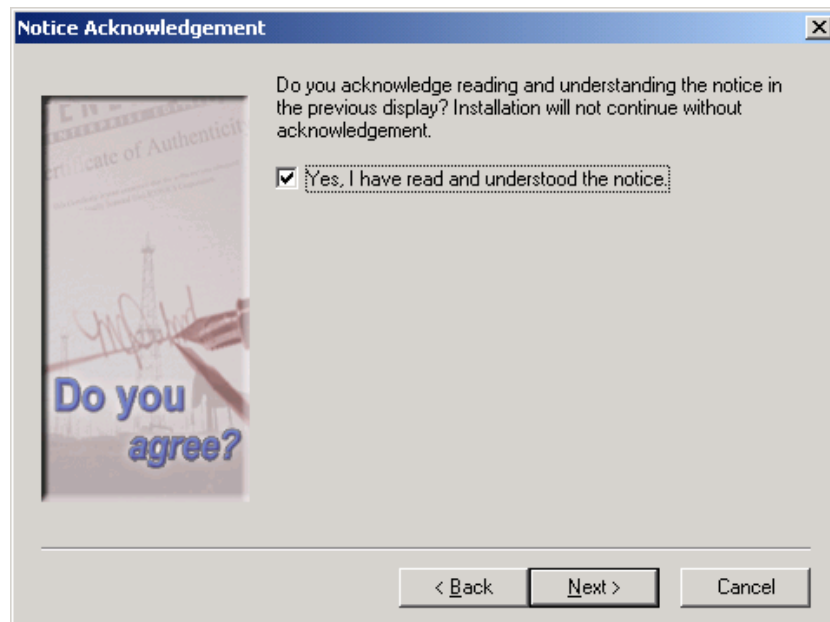

Figure 3.3. Acknowledging the License Utility Version Warning
7. In order to proceed with the License Utility installation, you must acknowledge that you have read the version compatibility notice that was displayed in the previous screen. Check the check box and click the **Next** button to continue, as shown in the **Figure 3.3**.